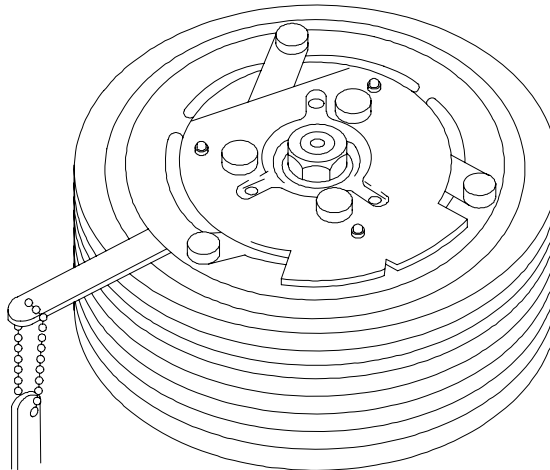

Figure 18 Armature Air Gap Adjustment
48. **Armature Assembly Installation.** To install the armature assembly, proceed as follows (refer Figure 18):